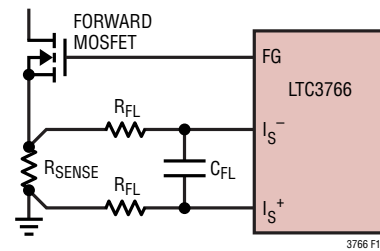

Figure 11. Using a Current Sense Resistor
When using a current sense resistor, the I_S^+ and I_S^- pins operate differentially and the maximum peak current threshold is approximately 75mV. Normally, the current sense resistor is placed in the source of the forward MOSFET, as shown in Figure 11. Depending on PCB layout and the shielding of the traces going to the I_S^+ and I_S^- pins, it is sometimes necessary to add a small amount of filtering as shown in Figure 11. Typically, values of $R_{FL} = 100\Omega$ and $C_{FL} = 200pF$ to $1nF$ will provide adequate filtering of noise pickup without substantially affecting the current loop response.
1. The accuracy of the current sense resistor and/or current sense transformer. For resistor sensing, the accuracy of the current sense resistor is normally 1%. For sense resistors less than $2m\Omega$, however, the parasitic inductance can cause a significant error in the sensed current. This error can be eliminated by adding an RC filter as shown in Figure 11.